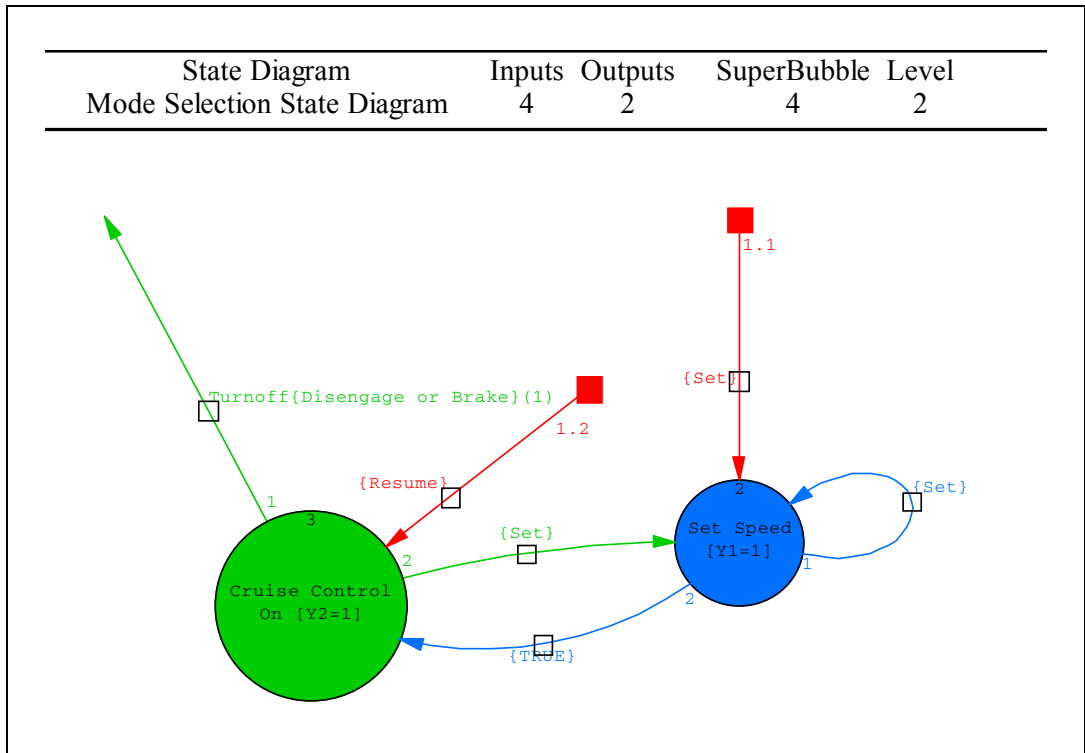

Figure 5-3. Expanded SuperBubble
Figure 5-3 shows the SuperBubble opened for editing. Bubbles 3 and 4 have returned to the screen. Their transitions to the outside world are visible as stubs, and the transitions of bubble 1 are shown with square blocks to indicate that they are inputs to this diagram. The transition out of bubble 3 is shown as an arrow to “nowhere,” with a number next to the transition handle (1) indicating the serial number of the receiving bubble.